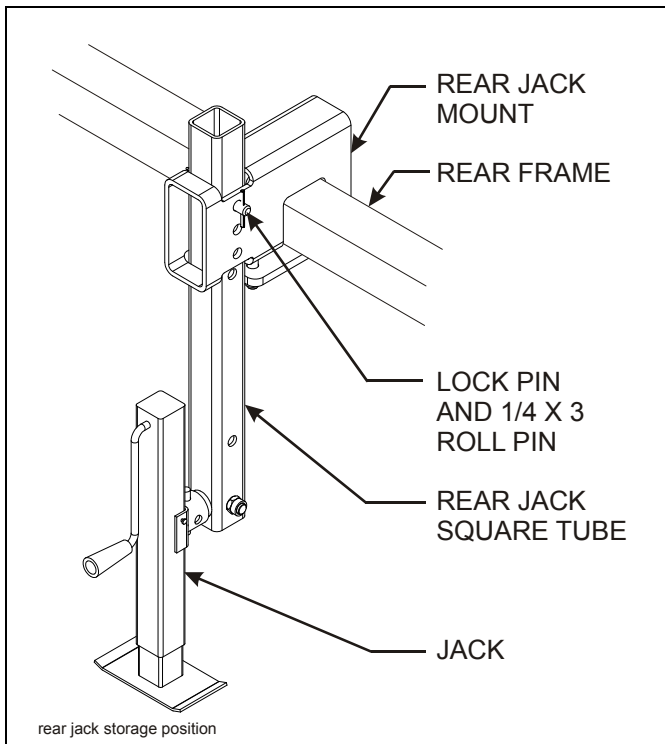

Figure 4-16: Rear Jack Transport Position
5. Slide the rear jack tube from transport position and into slot from bottom of rear jack mount. Pin jack tube in position. Attach jack to rear jack tube and pin in position. Crank jack until the rear of the machine is supported (**See Figure 4-16.**)